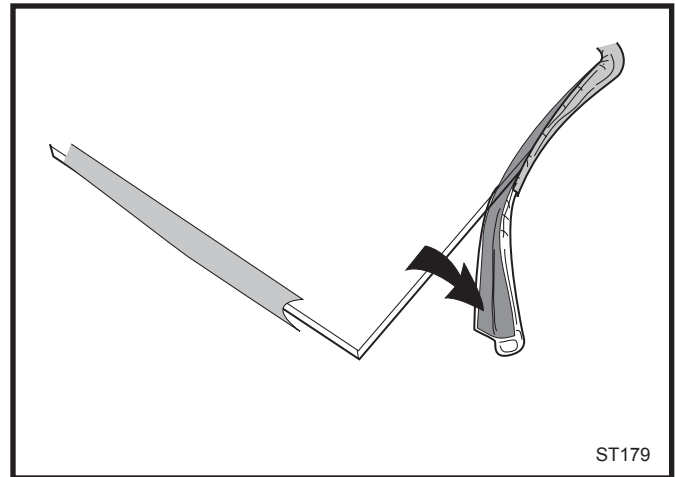

Fig. 48 Wrap the gasket material around the outside edge of the glass.
3. Starting on a long edge, remove about 6" of the protective paper strip and apply the flat adhesive face of the gasket around the outside-facing edge of the panel. Continue around the panel, applying about 6" at a time being careful not to stretch the material. Do not overlap the gasket ends. (Fig. 48)